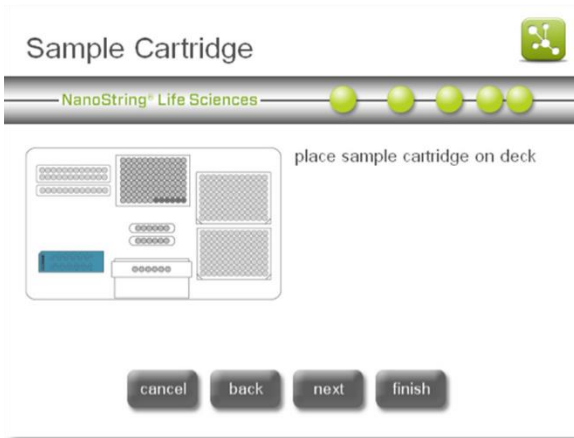
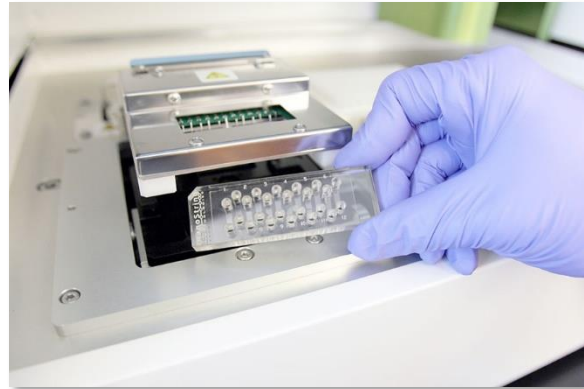

Figure 24: The 'Sample Cartridge' screen.
Figure 25: Insert an unused cartridge into the Prep Station in the orientation shown.
9. The 'Sample Cartridge' screen will appear (**Figure 24**). Carefully place a cartridge under the electrode fixture in the orientation shown in **Figure 25**.